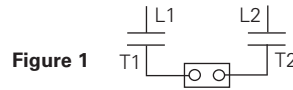

Figure 1
- 1.5 HP @ 120VAC, 2 poles making/breaking (see Fig. 1)